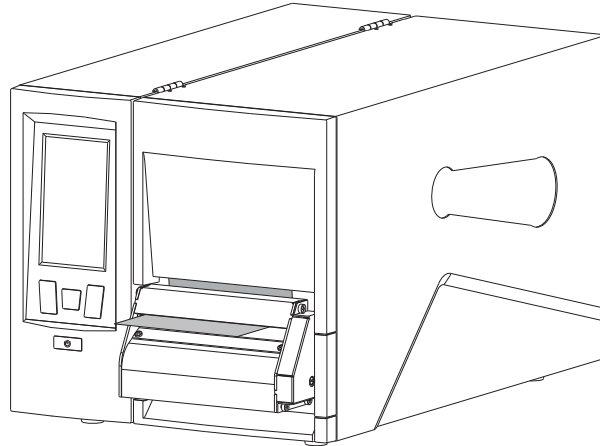

Figure 2-26 Close the Flip-up Cover
7. Close the flip-up cover. Enter the LCD touchscreen settings menu, and set the printed label handling mode to Cutter Mode (please refer to 3.2.1.7 Printed Label Handling). As shown in Figure 2-26.